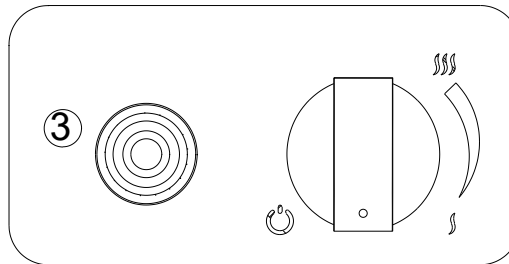

Fig 14 – Pressing the on button
- To turn off the device, simultaneously press and turn the knob all the way clockwise (Fig 14). The gas supply will be cut and the flame on burner will be turned off.